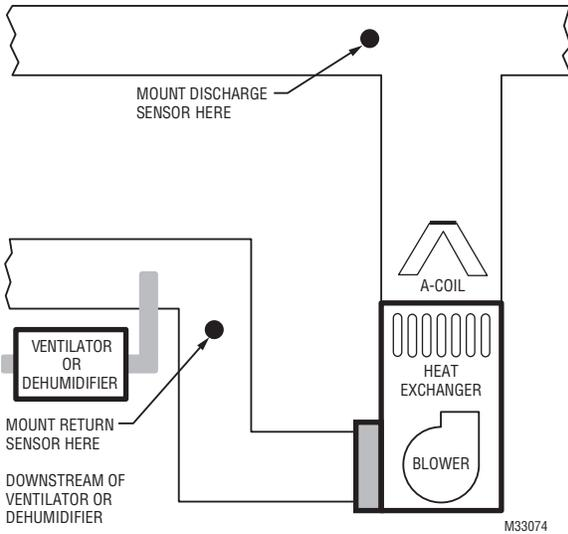

Fig. 10.
Refer to the guidelines below and Fig. 10–14 for mounting locations of the Discharge and Return Air Temperature Sensors.
1. Mount the Discharge Air Temperature Sensor on the supply duct in a location where the air is mixed well. Mount the Discharge Air Temperature Sensor out of sight of the A-Coil/Heat Exchanger when possible. See Fig. 10.
- Install the Return Air Temperature Sensor on the return duct in a location where the air is mixed well. Mount the Return Air Temperature Sensor downstream of a Bypass Humidifier, Dehumidifier or Ventilator. See Fig. 10–14.